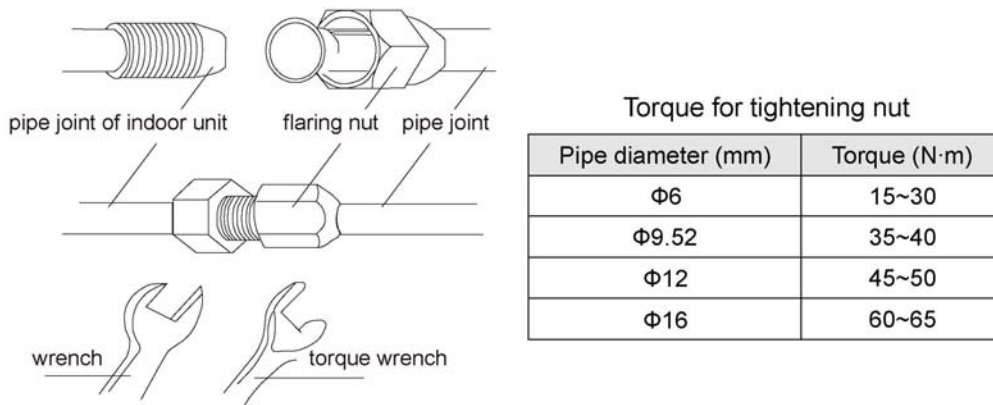

Fig.4.2
(1) Aim the flaring port of copper pipe at the center of screwed joint and then tighten the flaring nut with hand as shown in fig 4.2.
(2) Tighten the flaring nut with torque wrench.